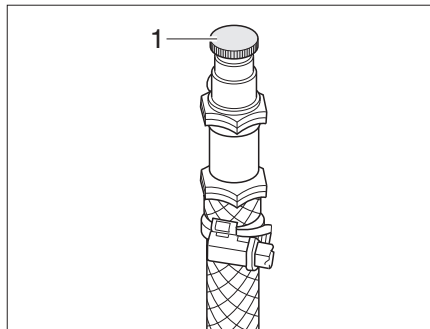

Fig. 360 Bleeding valve of hot-water heater
- Open bleeding valve (Fig. 360,1) and leave open until no more air escapes.